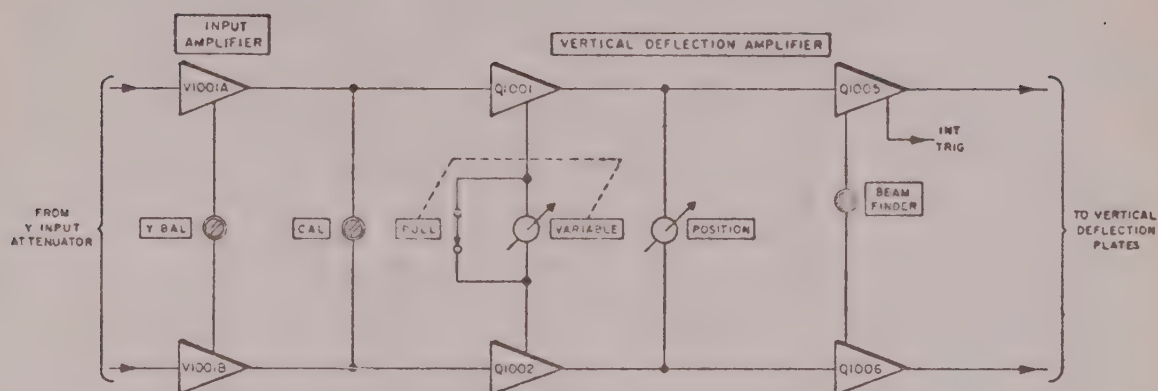

Figure 3-2. Y Deflection Amplifier, Functional Block Diagram
- Figure 3-2. Y Deflection Amplifier, Functional Block Diagram
b. Vertical Deflection DC Amplifier Operation (Figure 3-2)